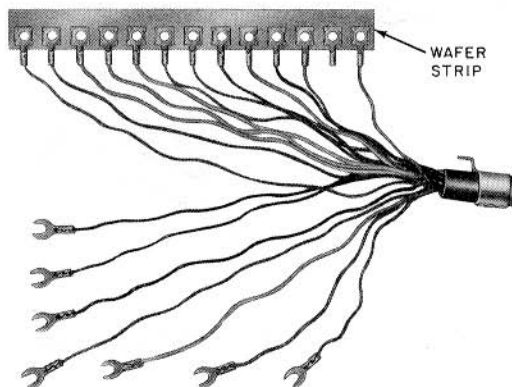

Fig. 9—Non-slotted Wafer Strip End of Mounting Cord, Early Type
2.17 The set ends of mounting cord conductors are furnished with individual spade tips or wafers for terminating on 588-, 589-, or 636-type keys (Fig. 9, 10, and 11).
3.06 Replace mounting cords of early manufacture (Fig. 9) as follows: